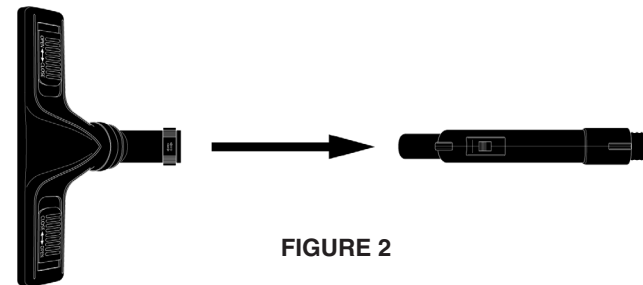

FIGURE 2
2. Align Squeegee Head, Steam Jet Nozzle, Vacuum Head or Small Vacuum Head with Vacuum/Steam Nozzles as shown (FIGURE 2), and press firmly onto Vacuum/Steam Nozzles. Note that Small Vacuum Head only fits onto Vacuum Nozzle, and does not have an Open/Close lock.